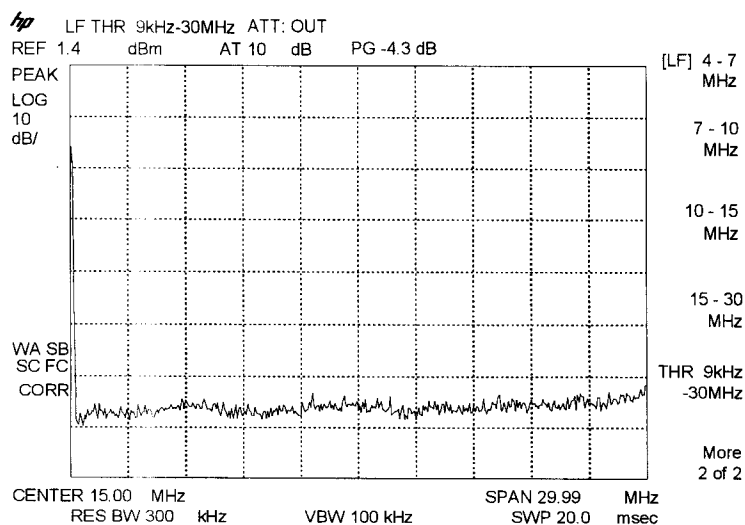

Figure 4.6 Showing the additional LF Bands menu options.
- More 1 of 2** This key exposes the second group of the available options for this menu. See Figure 4.6 for details on these additional options.
The following describes the available softkeys for the additional 'LF Bands' menu options , (as shown in Figure 4.6).